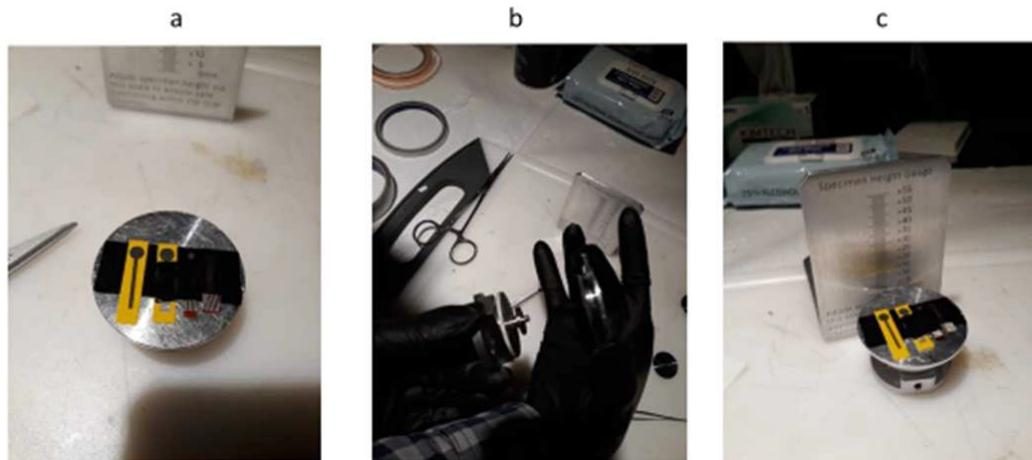

Figure 3. A) Samples in the holder. B) Put the bottom part of the sample le holder. C) Verify the height of the holder
- Put the holder on the camera. The holder must reach the top (Fig 3)